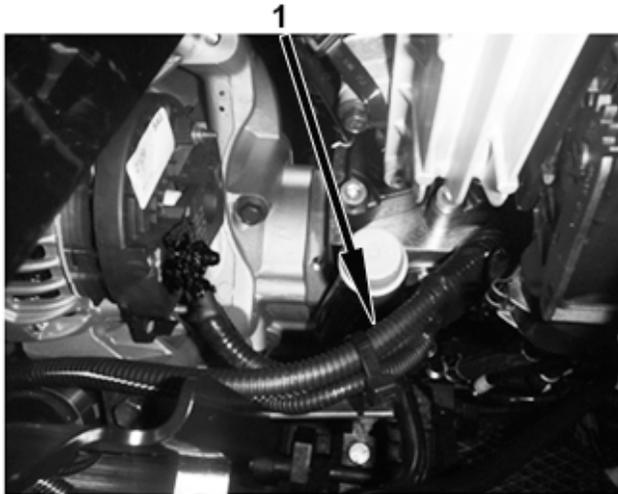

Figure 27
16. Install a dual-saddle swivel guide (3666881C1) between power steering hose tube and alternator harness bundle. Using a cable tie strap (306132C1) attach alternator harness bundle to one side of dual-saddle swivel guide. Using another cable tie strap, attach other side of dual-saddle swivel guide to power steering hose (Figure 27). The straps will be tightened in step 18.